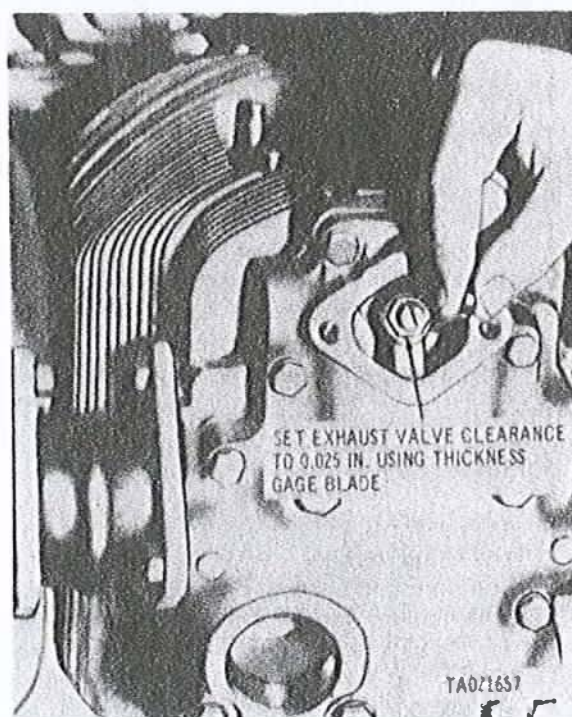

Figure 3-327. Adjusting exhaust valve clearance.
h. Using thickness gage blade part number 10882616 (fig. 3-327) set exhaust valve clearance to 0.025 in. by turning the adjusting screw clockwise to decrease the clearance or counterclockwise to increase the clearance. Check position of valve ad-
l. Using thickness gage blade part number 10882616 as shown in figure 3-327, set exhaust valve clearance to 0.025 in. by turning the adjusting screw clockwise to decrease the clearance or counterclockwise to increase the clearance. Check position of valve adjusting screw pad to make sure seat is flat on valve stem and torque tighten adjusting screw lock nut to 175 pound-inches.